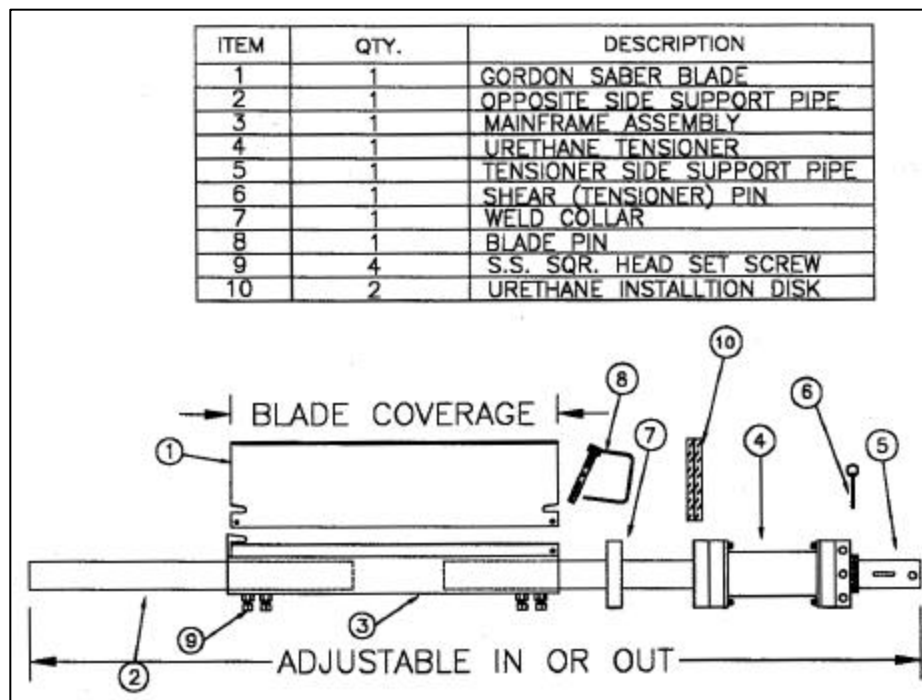
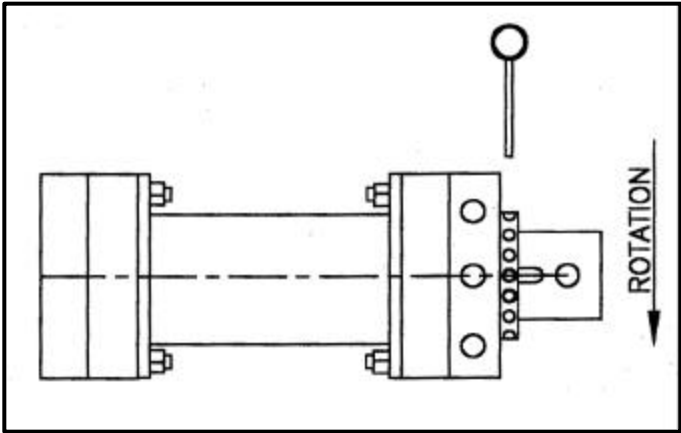

Fig. 2
Fig. 4
Disassemble the cleaner ( FIG. 2 ). This is done by removing the pin ( item 6 – FIG.2 ) at the end of the tensioner hub. Remove the tensioner ( item 4 - FIG. 2 ) from the tensioner pipe. You will notice that when the tensioner is removed, there is an extra hub ( item 7- FIG. 2 ) behind it. This is the weld collar for the opposite side. You should also find there are two urethane rings included in the packaging materials included with the cleaner. The installation rings are used to verify the "Z" dimension. Loosen the set screws (item 9 - FIG. 2) on the mainframe. **CAUTION!** Loosen them only enough to allow both pipes (items 2 and 5 - FIG. 2) to be removed from the cleaner mainframe ( item 3 - FIG. 2).
Put the cleaner ( items 1 & 3 - FIG. 2 ) inside the chute, and slide the support and tensioner pipes (items 2 and 5 - FIG. 2 ) through the slots previously cut. Then slide the weld collar (item 7 - FIG. 2) and the tensioner ( item 4 - FIG. 2 ) onto the support and tensioner pipes. Next, level the cleaner in relation to the head pulley. Verify the "Z" dimension by slipping the installation rings onto the support and tensioner pipe. Then the installation rings should be placed against the belt. Tack weld the weld collar and tensioner into place. Set the cleaner blade against the belt and insert the pin (item 6 - FIG. 2) into the tensioner hub. Tighten the sets crews on the mainframe. Now, complete welding on the hubs (3 - 1" (25.4mm) welds on each hub is enough). Pull the pin again to check if the cleaner rotates freely in the hubs; if it doesn't, realign the hubs until it rotates freely.
Finally, pull the pin ( item 6 - FIG. 2 ) and rotate the tensioner away from the head pulley, until the next hole shows ( SEE FIG. 4 ) in the tensioner hub. Reinstall the pin.